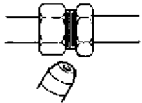

Fig. 2: Freon Detector Inspection Angle
3. Whenever possible, the detector probe should be held underneath the components since the refrigerant is heavier than air. (Fig. 2)